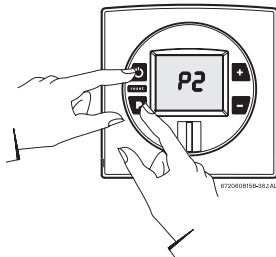

Fig. 62
- ▶ While holding the Program (P) button, press the ON/OFF button to turn ON the heater (see Fig. 62). As soon as '188' flashes on the display, release the Program button. The display should now read P2. Press  button until "P1" appears on display.